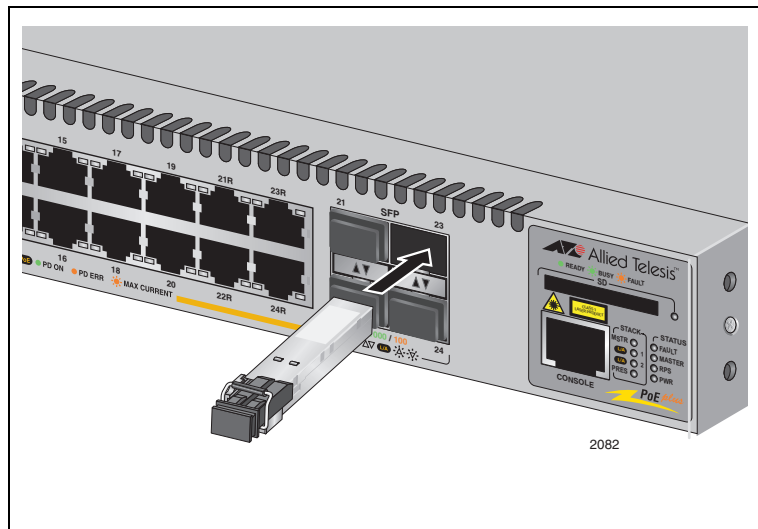

Figure 70. Installing a Transceiver
4. Slide the transceiver into the slot until it clicks into place, as shown in Figure 70.